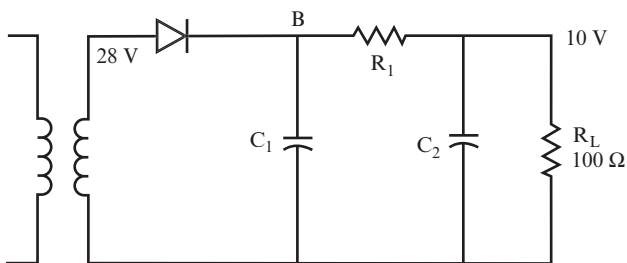
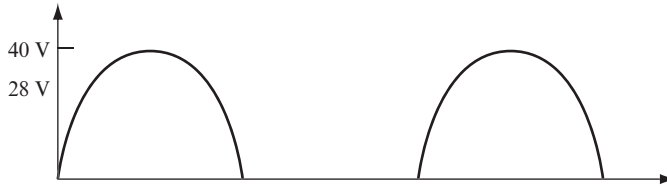

FIGURE 11.40
FIGURE 11.41
- 19** The output from the secondary coil of the circuit shown in Figure 11.40 is a $28 V_{\text{rms}}$, 60 Hz sine wave. For this circuit, you need 10 volts DC across the 100-ohm load resistor.
20 Figure 11.41 shows the waveform after the diode has rectified the sine wave for the half-wave rectifier circuit shown in Figure 11.40.
21 The average DC voltage at point B in the circuit shown in Figure 11.40 is approximately 90 percent of the peak value of the sine wave from the secondary coil, or $V_B = 0.9 \times 40 \text{ volts} = 36 \text{ volts}$. R_1 and R_L act as a voltage divider to reduce the 36-volt DC level to the required 10 volts DC at the output.